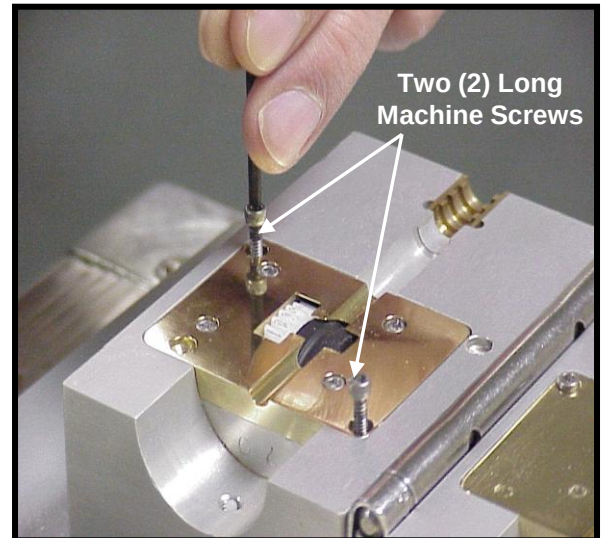

Figure 38
14.3.2.1 Use small 3/32" Allen wrench to remove two (2) long machine screws that secure Upper Brass Plate & Drive Assembly to Upper Blowing Head section. **See Fig. 38.**